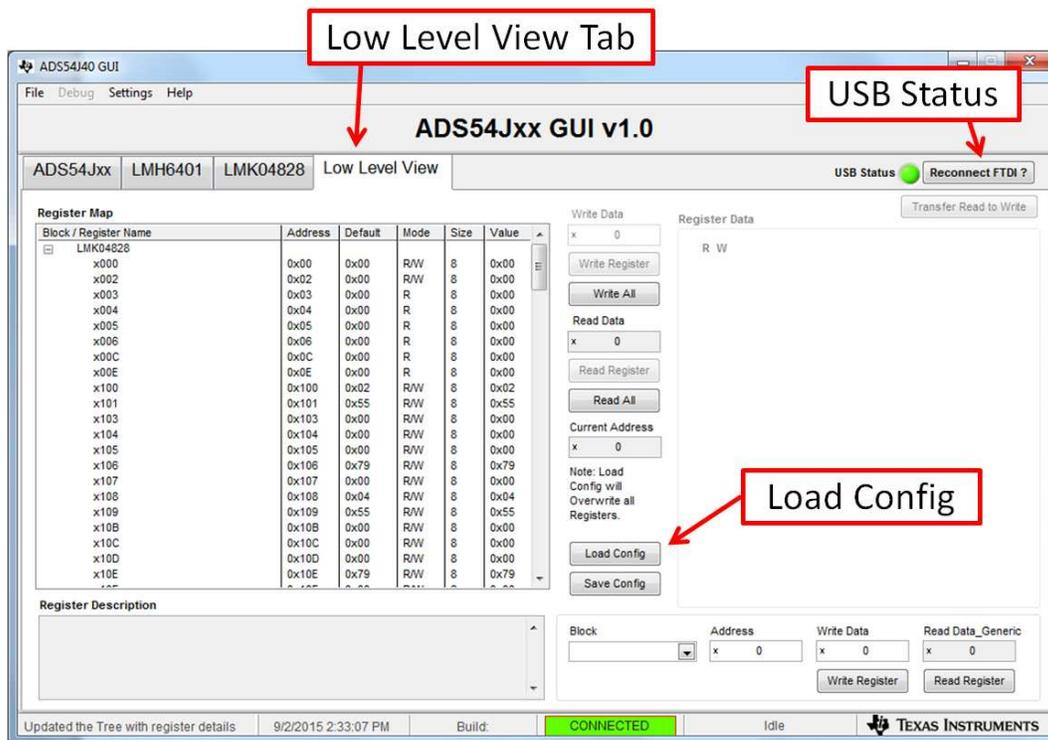

Figure 3. ADS54Jxx GUI Low Level View Tab
1. Open the ADS54Jxx EVM GUI by going to *Start Menu* \rightarrow *All Programs* \rightarrow *Texas Instruments ADCs* \rightarrow *ADS54Jxx EVM GUI*. The GUI now looks as shown in Figure 3.